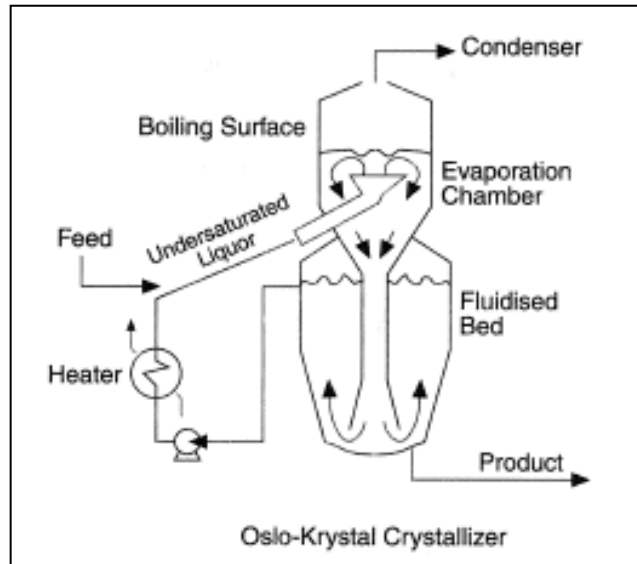

Figure 7. Construction of a Krystal crystallizer
**Construction:** The construction of a Krystal crystallizer is shown in figure 7. It consists of a vapour head and crystallizing chamber. Vapour head consists of a long tube, which extends almost to the bottom of crystallizing chamber. Other end of vapour head is connected to condenser and vacuum pump. A pump is provided which allows the feed to enter vapour head on its way to vapour head a heater is provided.